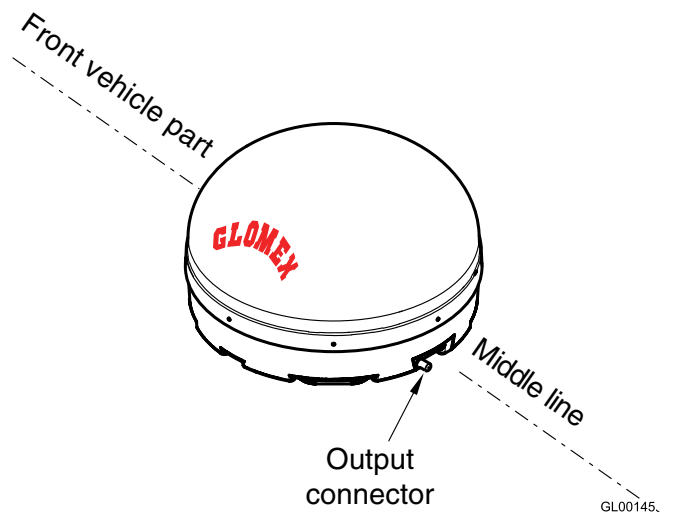

Fig. 8
5. Place the antenna in the appropriate position on the vehicle middle line, respecting the installation direction indicated in **Fig. 8** and apply a good pressure on the radome sides to make the plates correctly adhere to the mounting surface.
For a correct assembly, respect the installation direction indicated in **Fig. 8**.